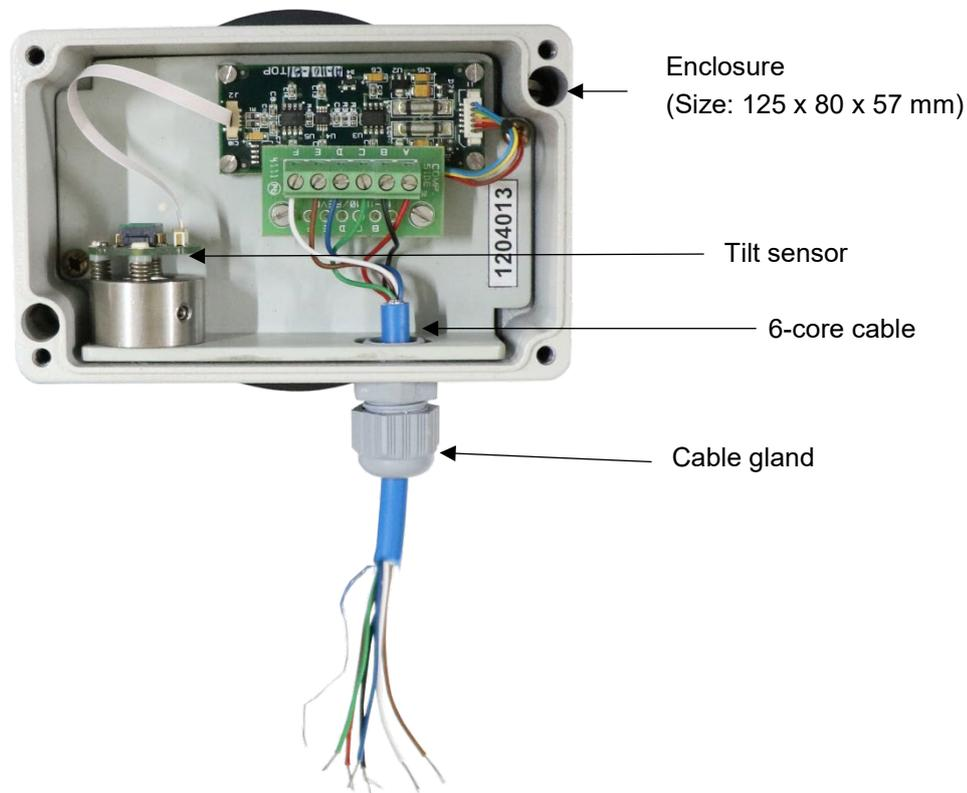

Figure 1: EAN-91M tilt meter
Model EAN-91M tilt meter (Figure 1) is built around a Micro-Electro Mechanical System (MEMS) technology tilt sensor having range of $\pm 15^\circ$, with high sensitivity and accuracy mounted inside a compact weatherproof enclosure. The tilt sensing module provides a bipolar DC voltage output proportional to the sine of tilt angle measured by the beam. The output is zero volts for a truly vertical or horizontal position.
- 3.1.1. Connect the 6-core cable to the tilt meter through screw terminal as per wiring details shown in Figure 1.